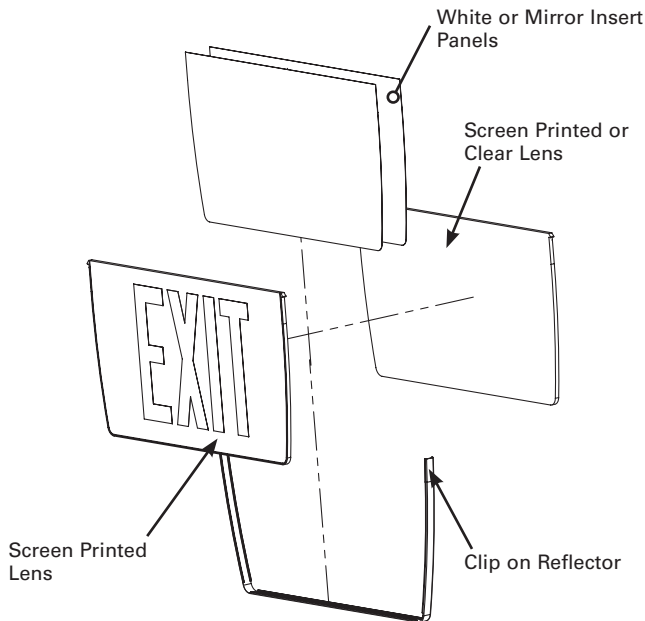

Figure 2.
3. After removing the clip on lens reflector, the number of sides and background can be configured as desired. (See Figure 2)